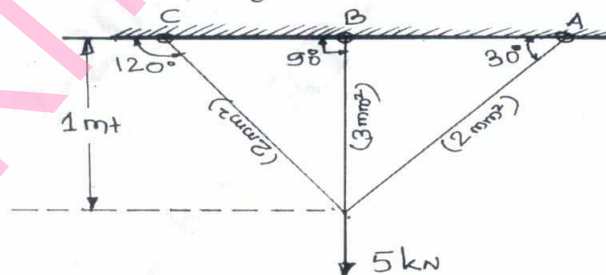

Fig.Q7
- 7 Analyse the three wire system shown in Fig.Q7, the number in parenthesis are the c/s area of the wire in mm². Take E = 2000 kN/mm², using stiffness method. (20 Marks)